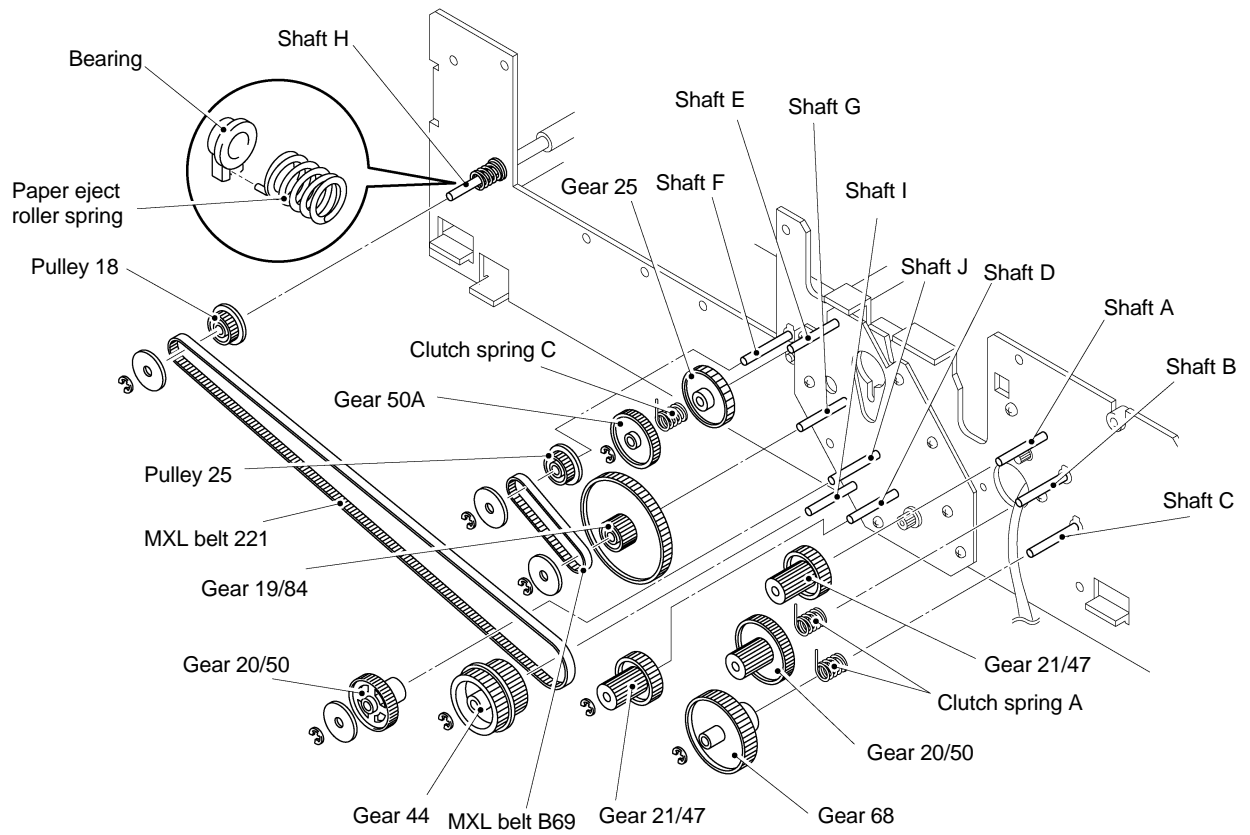

Fig. 3.63
- (8) Set gear 20/50, the flange, and then retaining ring on shaft J, as shown in Fig. 3.63